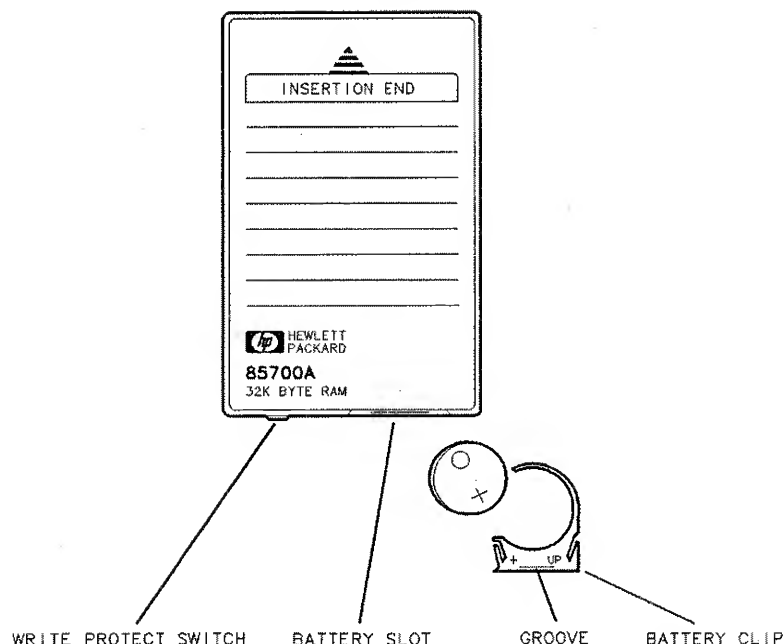

Figure 2-9. Memory Card Battery Replacement
1. Locate the groove along the edge of the battery clip. See Figure 2-9.
4. Insert the battery clip into the memory card, holding the clip as oriented in Figure 2-9. (Face the "open" edge of the clip toward the write-protect switch on the memory card.)